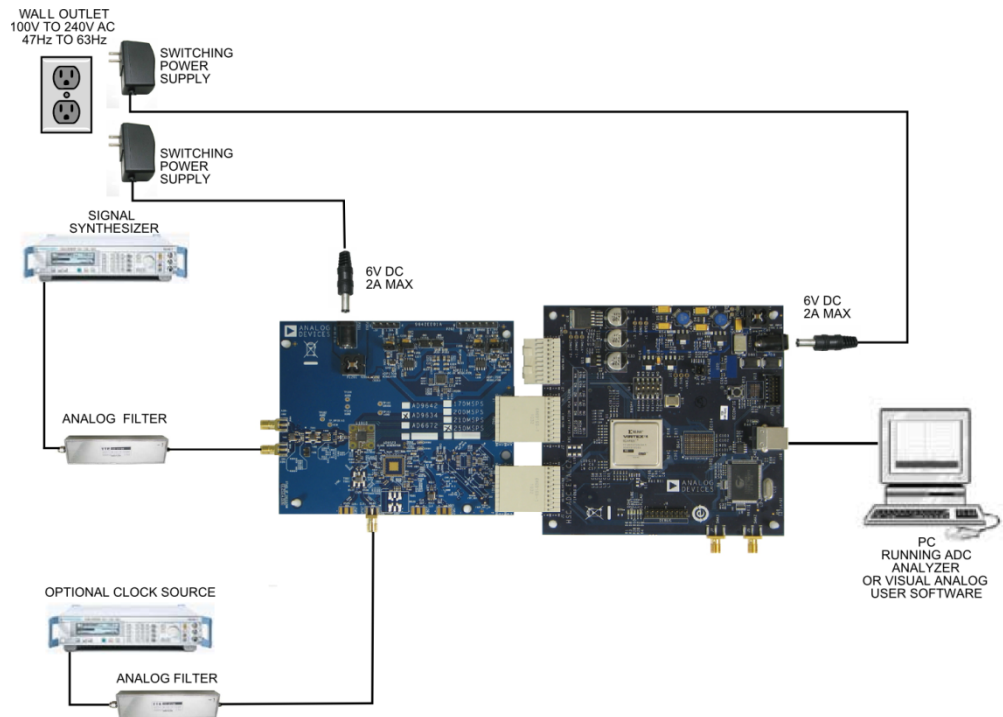

Figure 1: AD9634 Evaluation Board with HSC-ADC_EVALCZ Data Capture Board
1. Connect the AD9634 evaluation board and the HSC-ADC-EVALCZ board together as shown in Figure 1.
9. Next open the SPI Controller software. If prompted for a configuration file, select the configuration file titled AD9634_12Bit_205MSspiR03.cfg. If not, check the title bar of the window to see which configuration is loaded. If necessary, choose "Cfg Open" from the "File" menu and select one of the configuration files named above. Note that the CHIP ID(1) field may be filled whether the correct SPI Controller configuration file is loaded or not.
11. Set the DCO Clk Delay Enable checkbox in the FLEXOUTPUT DELAY(17) panel on the ADCBase0 tab as shown below. In addition, set the DCO Clk Delay register to the '600ps additional delay on DCO pin'. Also set the O/P Port DCO Clk Invert checkbox in the OUTPUT PHASE (16) panel. These settings align the output timing with the input timing on the capture FPGA.